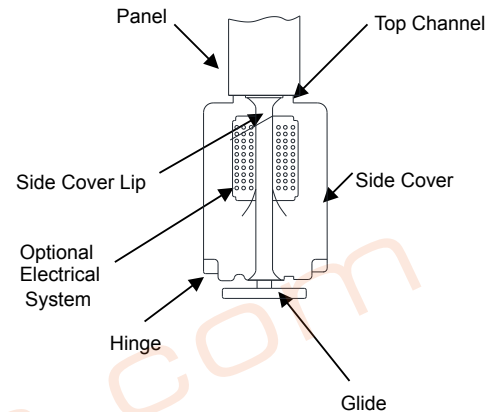

FIGURE 1
A. Starting at one end press down on the top of the side cover and push the lip under the top channel. SEE FIGURE 1.